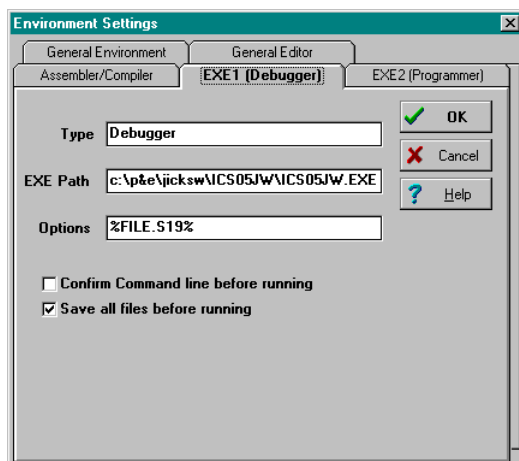

Figure 1-1. WinIDE Environment Settings Dialog EXE1 Tab
- Click on the *EXE1 Debugger* tab to bring the tab (Figure 1-1) to the front. Set the executable type, path and filename, command line options (including optional switches, filenames, or port settings), and other options for the ICS05KJW debugger application.